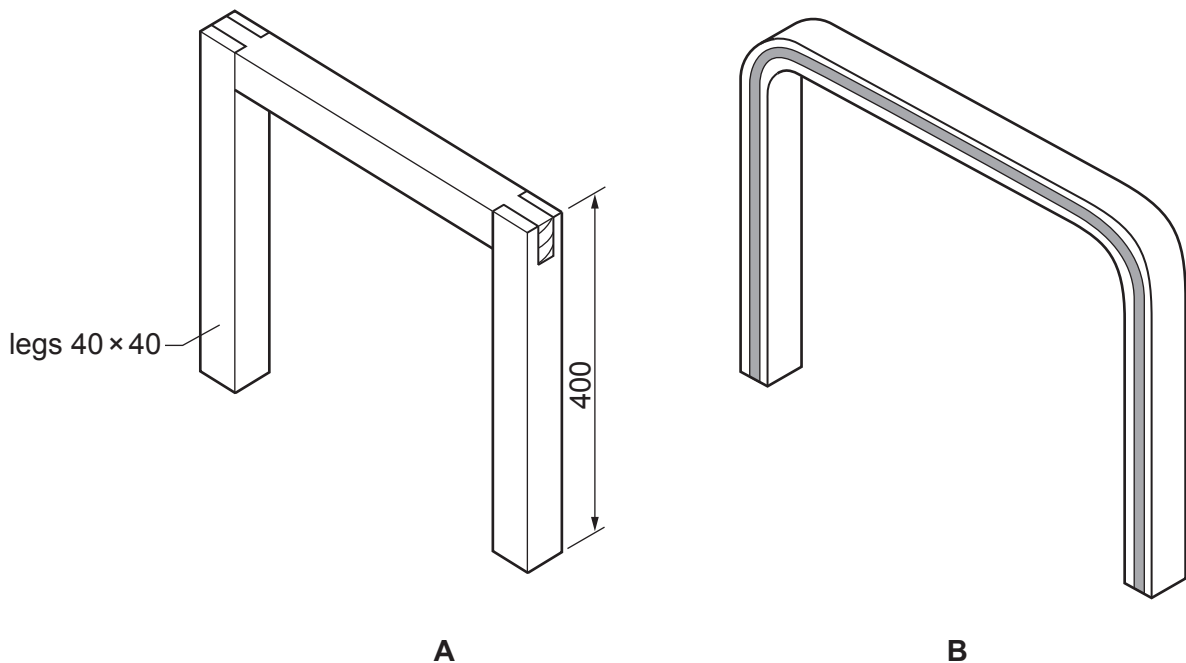

Fig. 5.1
- 5 Fig. 5.1 shows two different types of leg construction, **A** and **B**, for a small table made of hardwood.